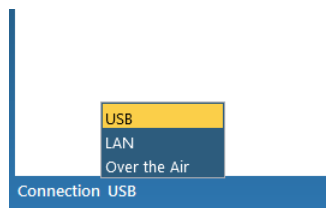

Figure 5: Selecting the USB connection for programming
- Launch TRBOnet Swift CPS on your computer. In the main window, select **USB** as the programming interface (Figure 5, page 15).
- Launch TRBOnet Swift CPS. In the main window's bottom bar, select **USB** as an interface for device programming (Figure 5). Connect the programming cable to a USB port of your computer.